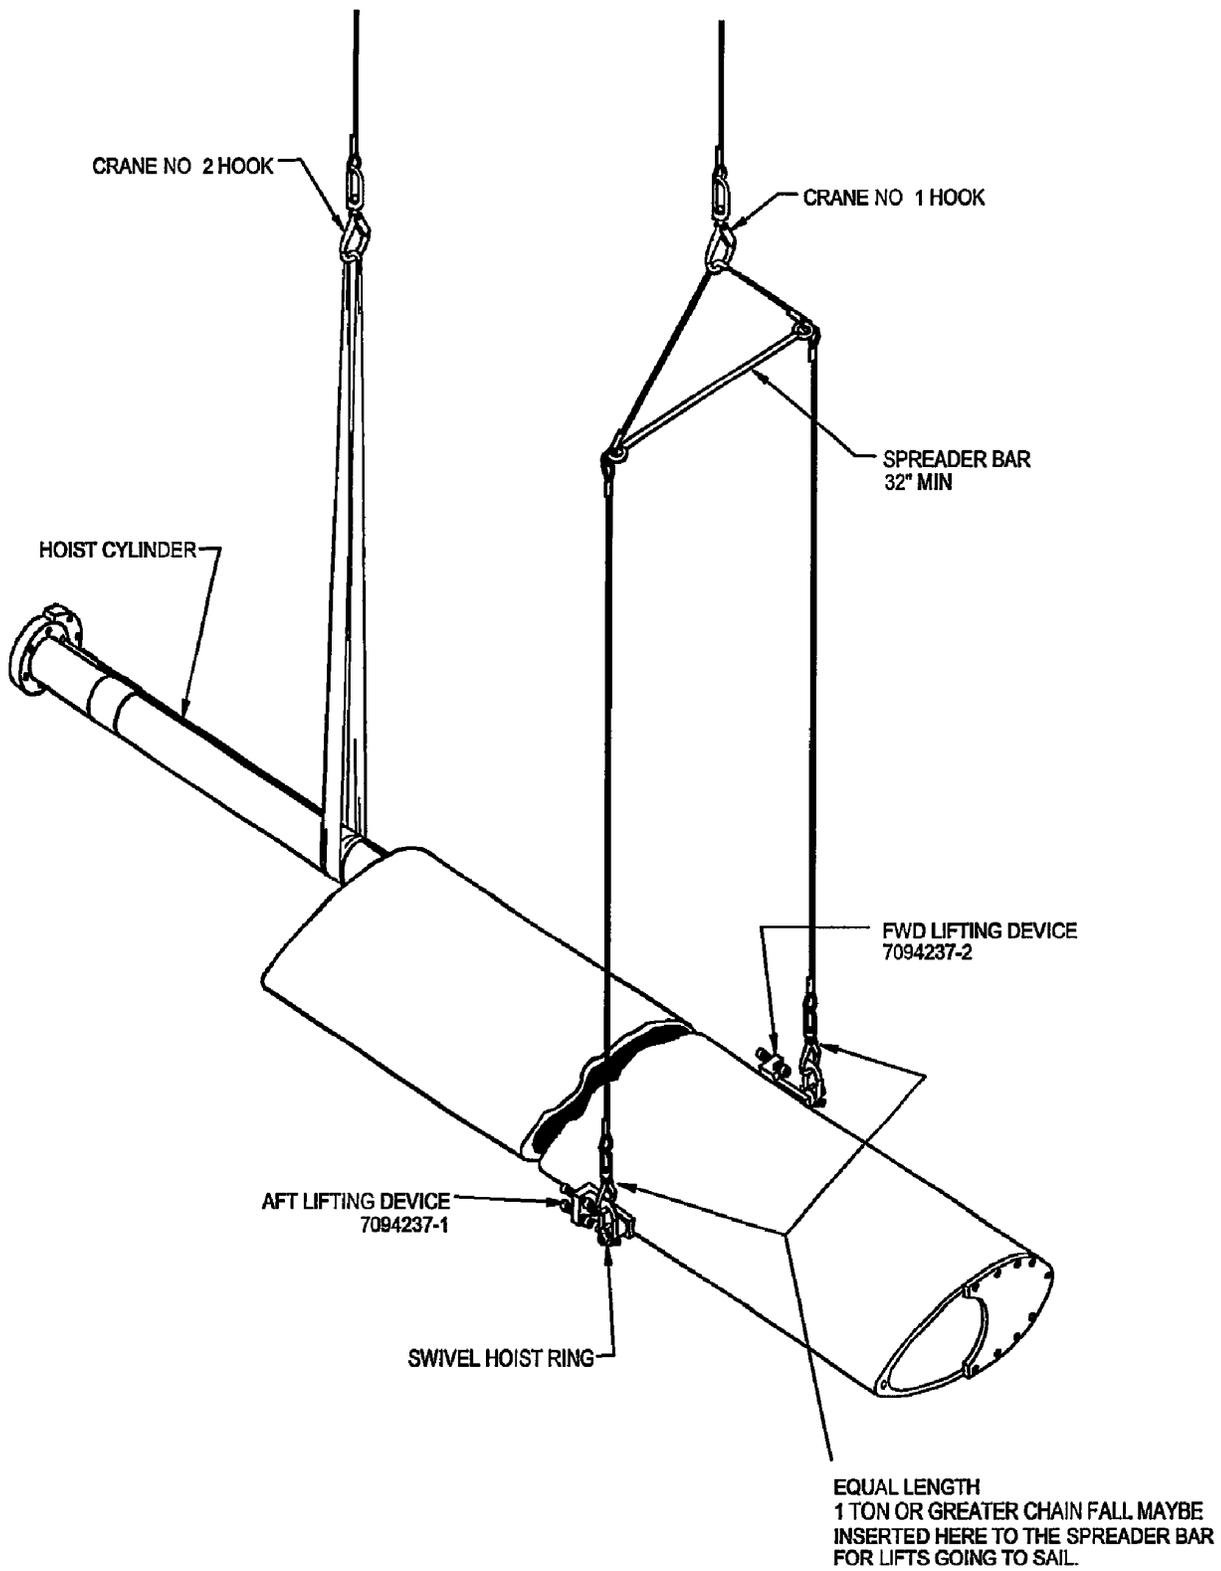

Figure 5-4 Two Hook HDR and ACM Faired Mast Lifting Arrangement
- d. Attach a nylon strap to the hoist cylinder as shown on Figure 5-4.
- f. Attach crane hook No. 1 to each lifting device swivel hoist ring using a minimum 32-inch length spreader bar assembly. It is recommended that one ton or greater chain-falls be installed between the fwd and aft lifting device swivel hoist rings and spreader bar assembly. The chain-falls shall be adjusted to equal lengths. Attach crane hook No. 2 to the hoist cylinder nylon strap as shown in Figure 5-4.